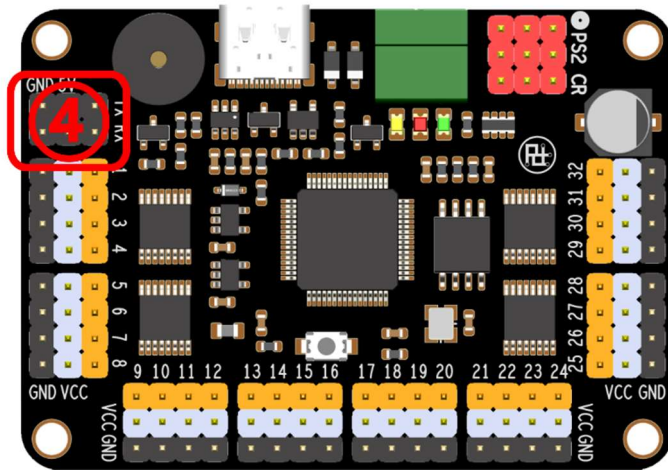

Figure 5
IV. Bluetooth and Wi-Fi sensor wiring method, as shown in Position ④ in *Figure 5*:
Position ④ in *Figure 5* uses four DuPont wires to connect with the Bluetooth or Wi-Fi module, 5V-VCC, GND-GND, RX-TX, TX-RX.